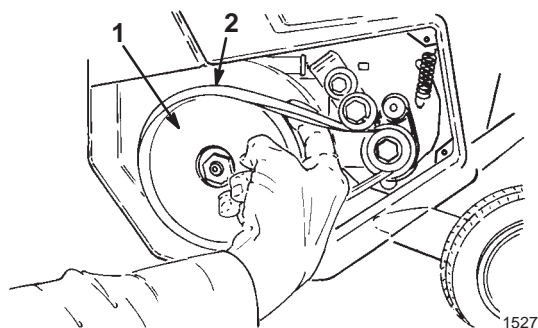

Figure 19
3. Rotate the rotor with your left hand while sliding the belt off the large pulley with your right hand (Fig. 19).
2. Remove the large belt by slowly sliding it off the small pulley (Fig. 19). Refer to steps 2 and 3 of *Replacing the Large Belt* on page 11.